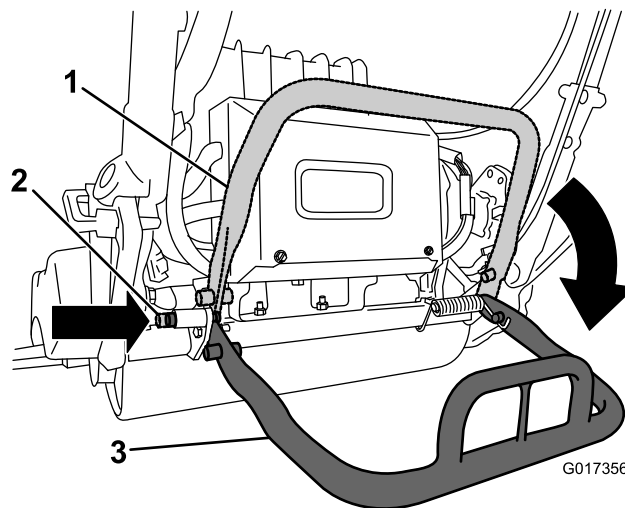

Figure 4
2. Lower the kick stand and push in the locking pin to lock the kick stand in the service position (Figure 4). Allow the machine to rest on the locked kickstand.